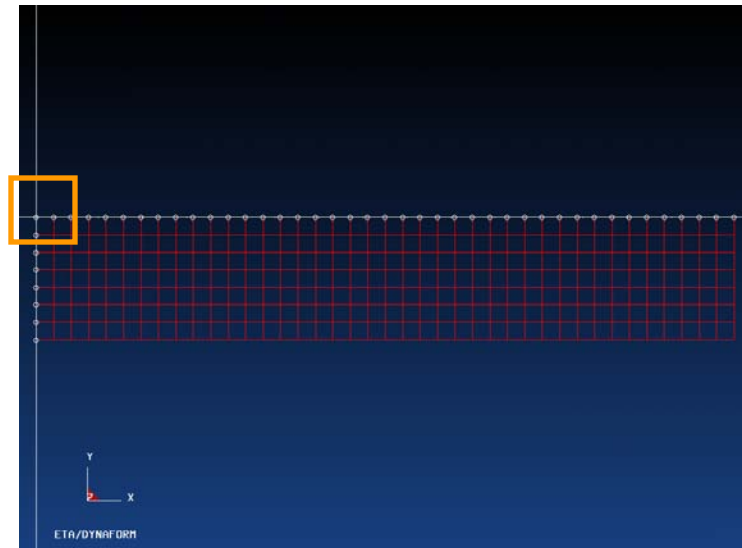

Figure 29
4. Select the labeled node (Figure 29) in the display screen. Then all nodes on the symmetry plane are selected automatically.